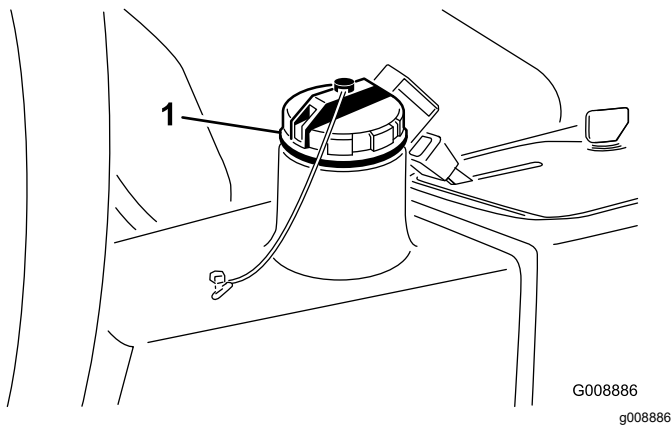

Figure 32
- Mobil EAL EnviroSyn H 46 (US)
2. Clean the area around the filler neck and cap of the hydraulic tank (Figure 32).